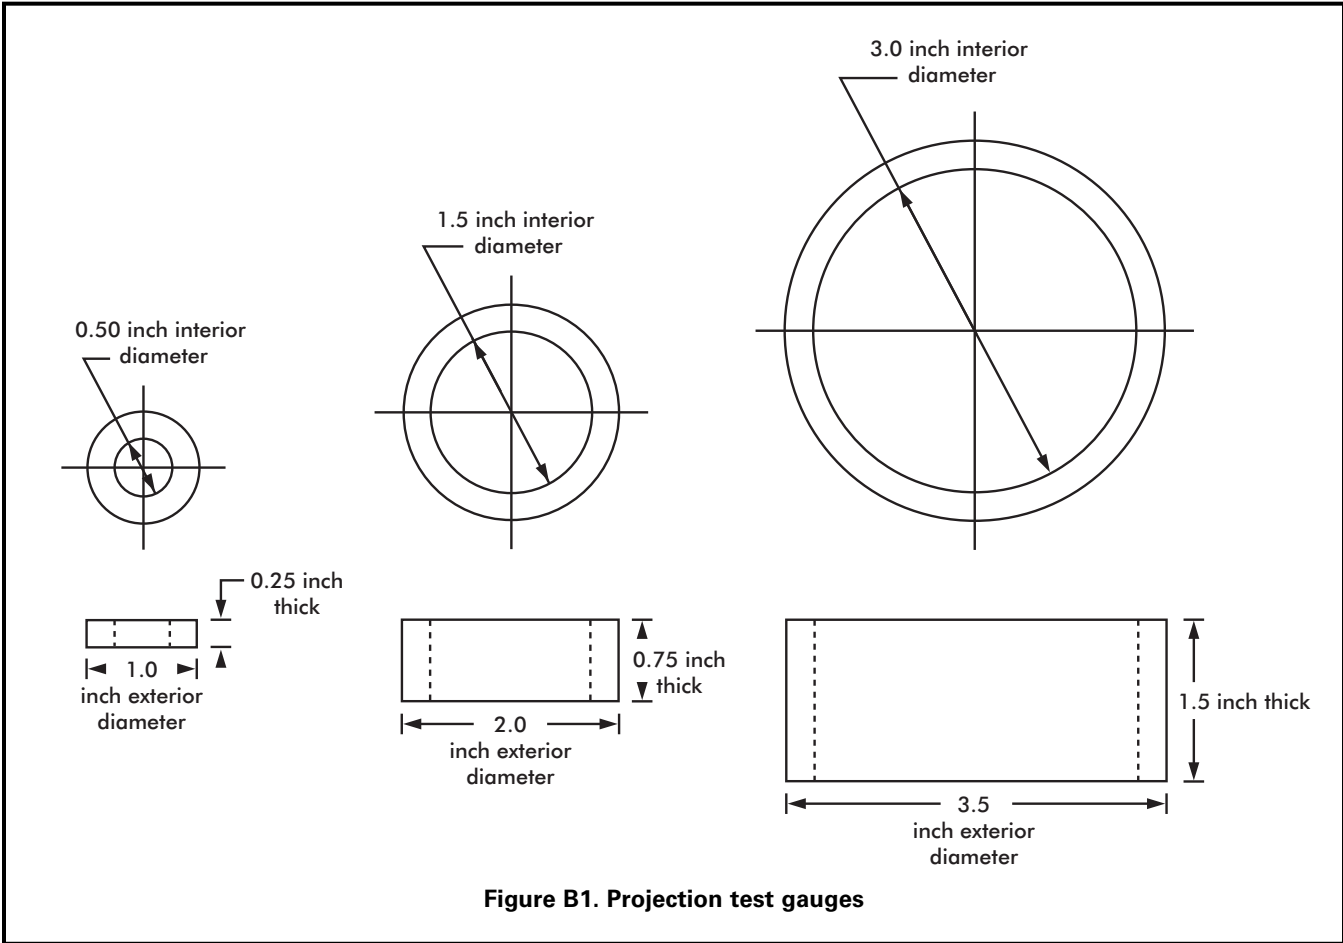

Figure B1. Projection test gauges
Step 1: Successively place each projection test gauge (see Figure B1) over any projection
To minimize the likelihood of clothing entanglement on slides, projections that (1) fit within any one of the three gauges shown in Figure B1 and (2) have a major axis that projects away from the slide bed should not have projections greater than 1/8 inch perpendicular to the plane of the surrounding surface (Figure B12).
Step 2: Determine which, if any, fit inside the projection test gauges (Figure B1).